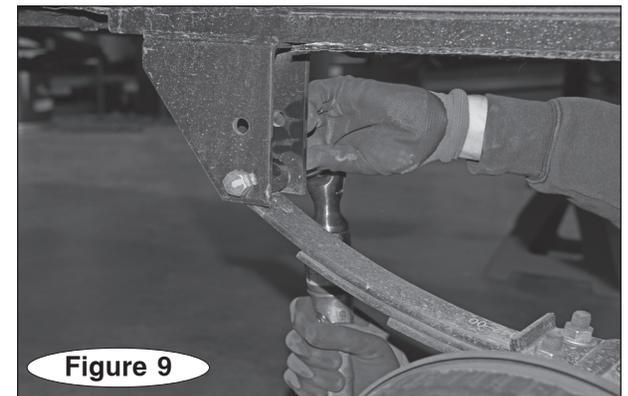

Figure 9
**a.** Insert the eyelet end of the spring between the flanges of the spring hanger, and reinstall the bolt you removed in step 5 (Figure 9). Drive the bolt home using a hammer to fully re-engage the splines.